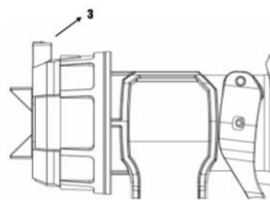

Fig. 7
- It is also possible to switch between wide and narrow spray jets by using the jet width adjusting lever (#3) (Fig. 7).